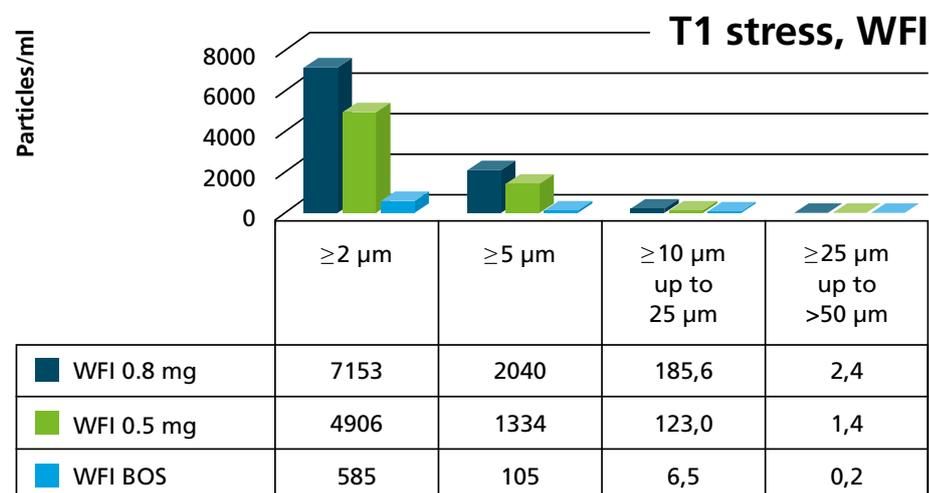

Figure 4: Sub visible silicone oil particles ≥ 2 µm WFI solution.
significantly by fixating a certain amount of the silicone oil emulsion on the inner walls whilst still maintaining functionality. Figures 4 & 5 show particle measurements derived from a recent study comparing oily (0.5 and 0.8 mg/syringe) and baked-on siliconised syringes. WFI and a Tween 80 0.03% solution were chosen as model liquids. The samples were stoppered (fluoropolymer-coated plunger stoppers) and the number of silicone oil particles was determined according to EP 2.9.19 after one day of storage, three months storage and after three months under stress conditions to simulate a transport situation. Results shown are for the “after three month under stress” conditions.
Also in this case the appropriate plunger stopper selection is important regarding the final total silicone particle load. Figure 10 shows results from the same particle study as Figures 4 & 5 extended by ClearJect with needle syringes (CJ). The silicone oil amount per syringe was 0.8mg. A significant reduction compared to glass syringes can be observed, especially for particles below $10 \mu\text{m}$. This provides another reason to recommend the use of these syringes for silicone oil particle-sensitive protein therapeutics.